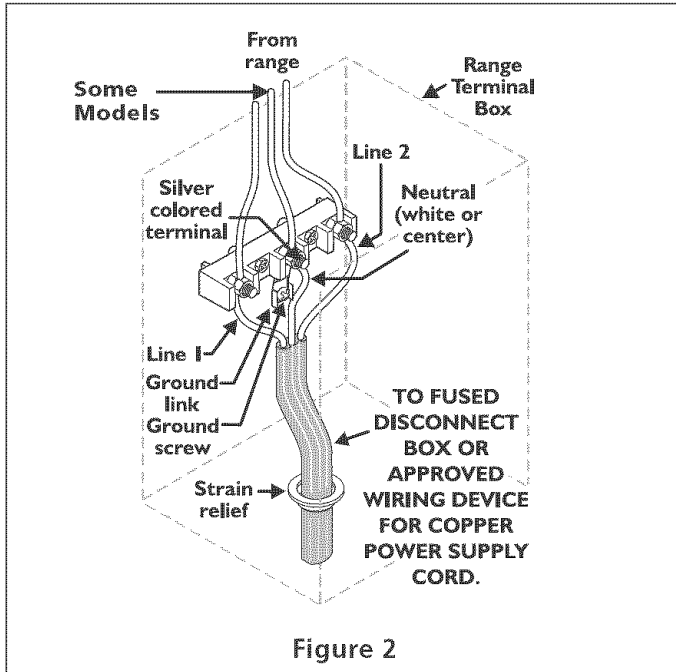
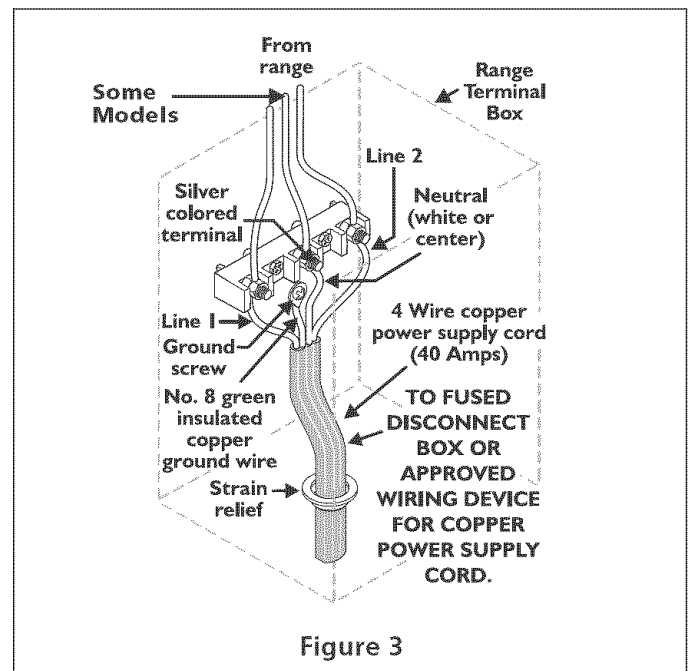

Figure 2
Figure 3
A 1-3/8" knock-out hole is provided at the bottom of the range terminal box for connecting the power supply cord kit to the range terminal block (see Figures 2 and 3).
Insert the residence 3-wire power supply cable through the 1-1/8" hole at the bottom of the range terminal box (see Figure 2). For mobile home application or where connections with a 3-wire power supply cable is not allowed, use a 4-wire power supply cable (for connections, see Figure 3). Use a U.L. approved strain relief clamp to secure the cable to the terminal box.
- Connect ground wire (green) of copper power supply cord to frame of appliance with ground screw, using hole in frame where ground strap was removed (see Figure 3).